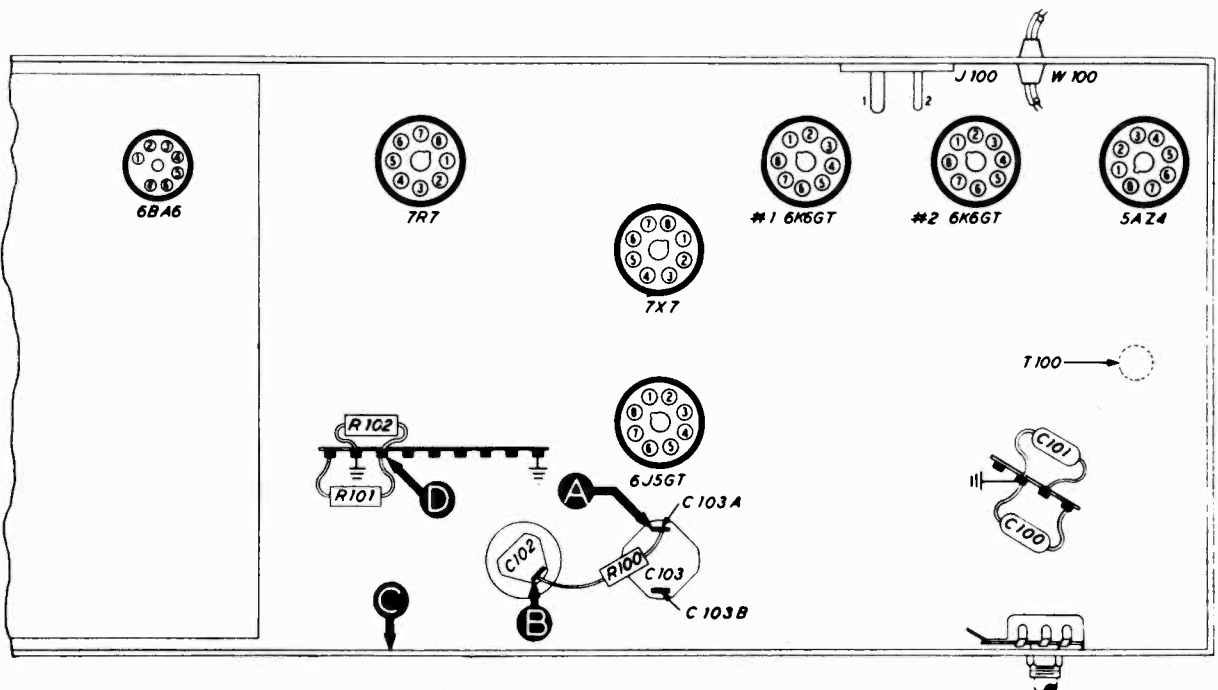

Figure 2. Bottom View, Showing Section 1 Test Points
2. Measure the resistance across condenser C102 (see figure 2). When the ohmmeter test leads are connected in the proper polarity, the highest resistance reading will be obtained. If the reading is lower than 3500 ohms, check condensers C102 and C103B for leakage or shorts.